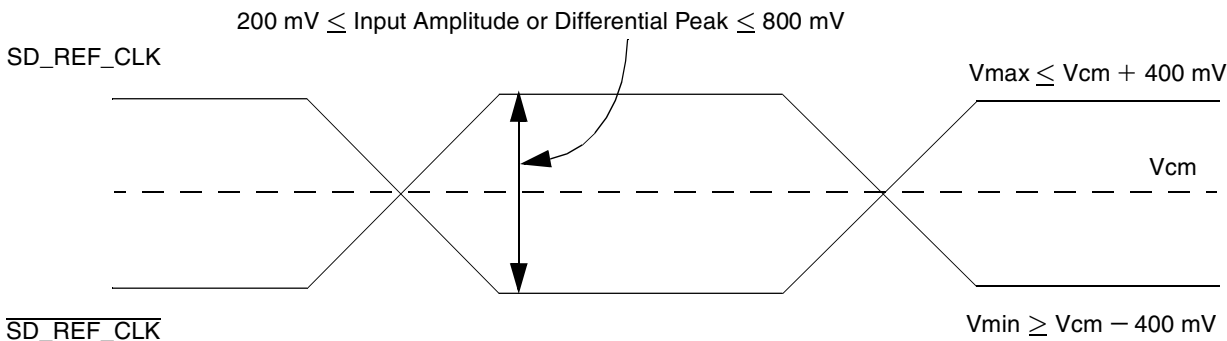

Figure 42. Differential Reference Clock Input DC Requirements (External AC-Coupled)
- For **external AC-coupled** connection, there is no common mode voltage requirement for the clock driver. Since the external AC-coupling capacitor blocks the DC level, the clock driver and the SerDes reference clock receiver operate in different command mode voltages. The SerDes reference clock receiver in this connection scheme has its common mode voltage set to SCOREGND. Each signal wire of the differential inputs is allowed to swing below and above the command mode voltage (SCOREGND). Figure 42 shows the SerDes reference clock input requirement for AC-coupled connection scheme.